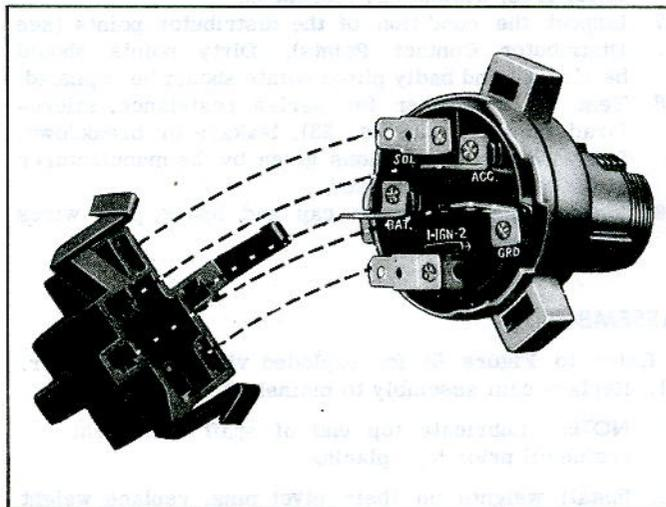

Fig. 10i—Switch and Connector Unplugged
- Snap the connector into place on a new ignition switch (fig. 10i).